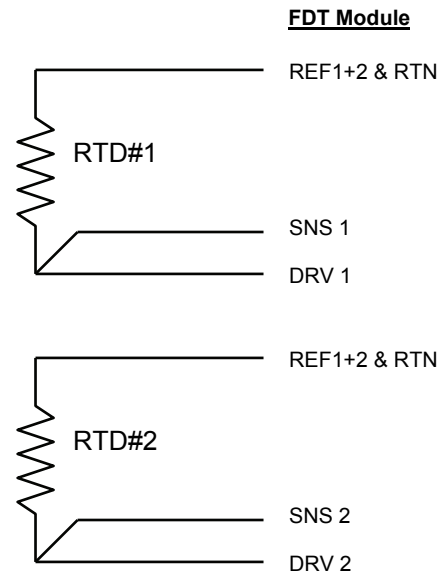

Figure 2
5. Route a cable from the electrical junction box back to the FDT flow meter. Connect the RTDs as illustrated in Figure 2. Note that the SNS1 and DRV1 wires originate from the same location on the RTD.